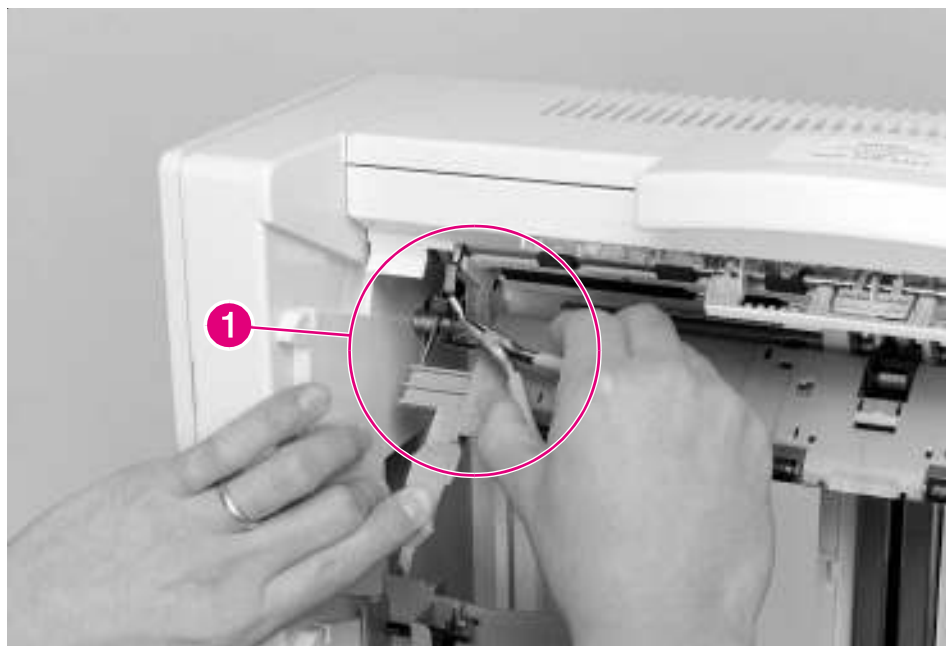

Figure 6-161 8-bin Mailbox Input Paper Guide (1 of 2)
- 3 Hold down the Jam Access Door while unplugging the ground wire that runs from the Input Paper Guide to the Flipper Motor (Figure 6-161, callout 1).
- 2 Reconnect the ground wire to the Flipper Motor (Figure 6-161, callout 1).